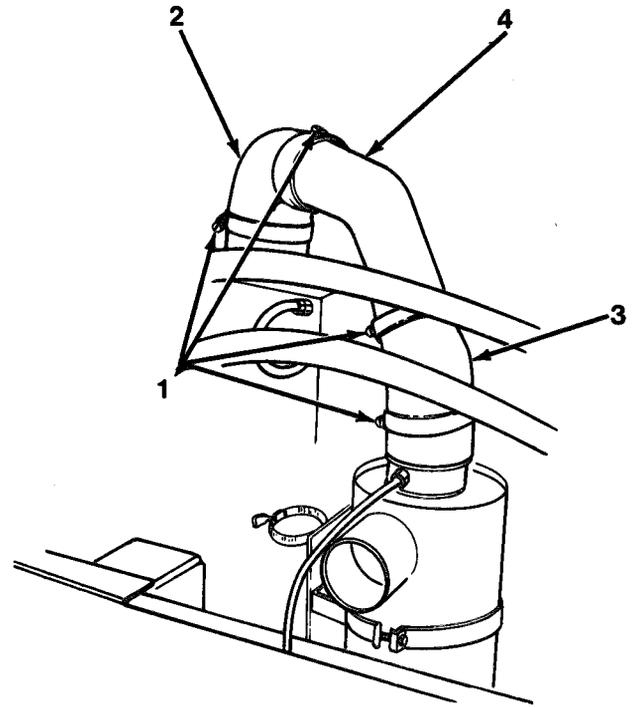

Figure 6-1
3. Loosen four clamps (1, Figure 6-1).
4. Remove elbows (2) and (3), four clamps (1) and tube (4).